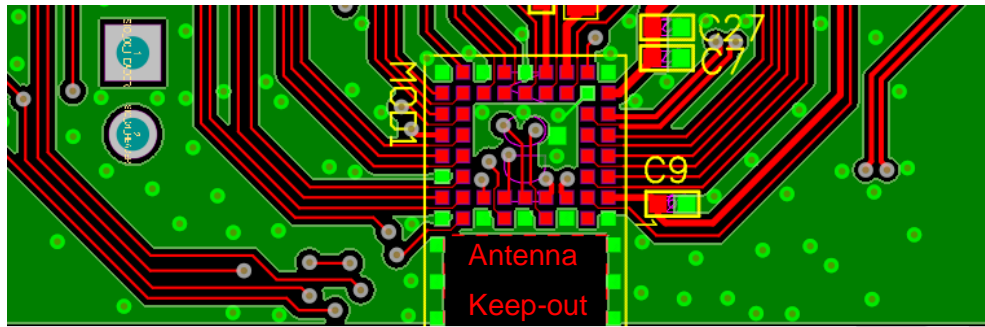

Figure 9: PCB trace Antenna keep-out area (shown in red), corner of the BL653 $\mu$  development board for the 453-00059 module.
- The BL653 $\mu$  development board has the 453-00059 module on the edge of the board (not in the corner). The antenna keep-out area is defined by the BL653 $\mu$  development board which was used for module development and antenna performance evaluation is shown in Figure 9, where the antenna keep-out area is ~5 mm wide, 3 mm long; with PCB dielectric (no copper) height ~1 mm sitting under the 453-00059 PCB trace antenna.
- Host PCB land pattern and antenna keep-out for the BL653 $\mu$  applies when the 453-00039 is placed in the edge of the host PCB preferably in the edge center. Figure 9 shows an example.